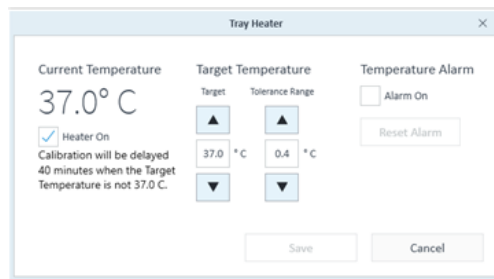

Figure 13. Edit temperature settings (Tray Heater dialog box)
1. Select the Alarm On check box in the Tray Temperature window. (See Figure 13).